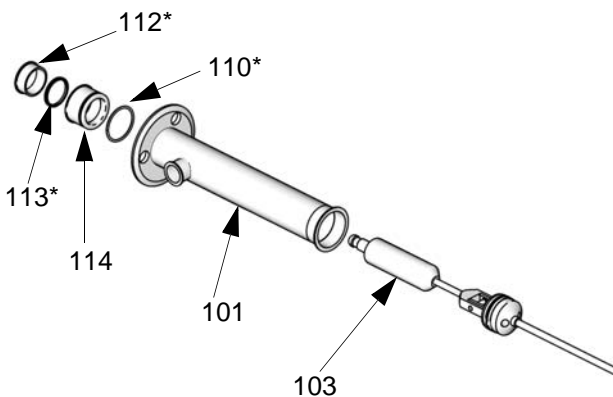

FIG. 3. Remove displacement rod
4. See FIG. 3. Push the displacement rod (103) down as far as possible, then pull it out the bottom of the cylinder (101).
5. Remove the bearing (112), packing (113), packing housing (114), and o-ring (110).